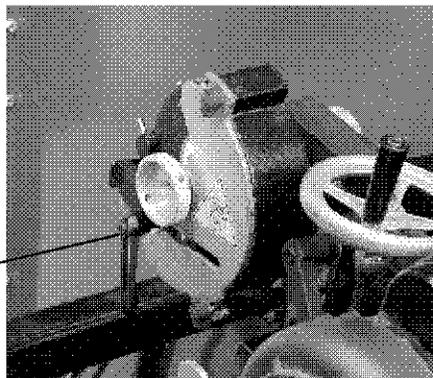

FIG. 15
3. The lock handle on the side of the guard/carrier plate is an adjustment for grinding wheel wear. Use this to hold the fingers in the correct position to the grinding wheel. See FIG. 15.